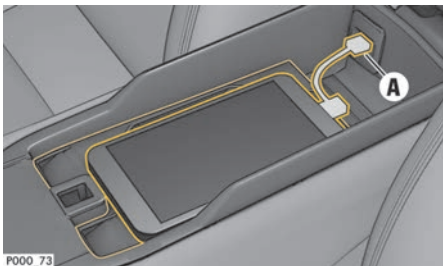

Fig. 22: USB port in centre console
1. Connect iPhone® to the USB port in the centre console or in the glove box, depending on equipment (see Fig. 22).